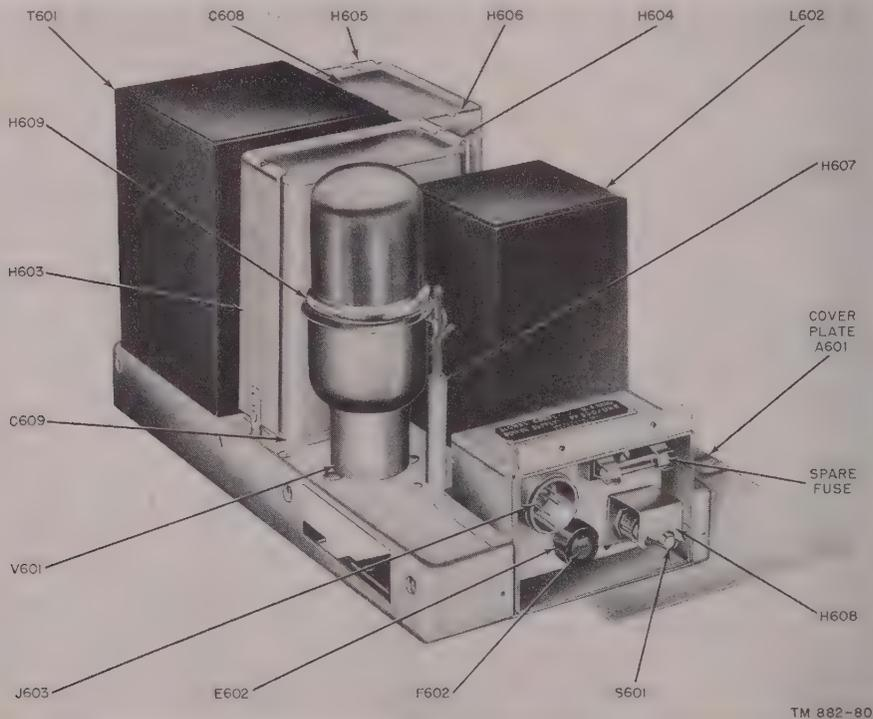

Figure 5. Power Supply PP-660/URR, part of Radio Receiver R-220/URR.
10. Description of Power Supply PP-660/URR (fig. 5)